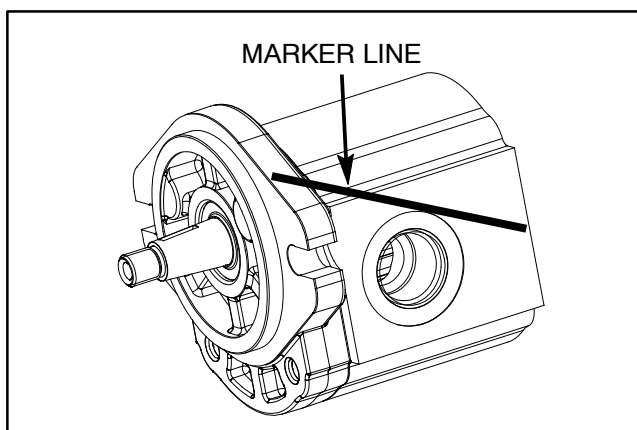

Figure 89
2. Use a marker to make a **diagonal** line across the front flange and body for assembly purposes (Fig. 89).